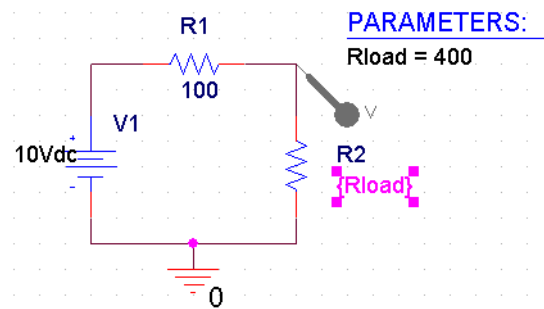

Figure 20. Potential divider with the value of R2 given by the parameter Rload. Don't forget the curly brackets!
- Change the value from 400 to {Rload}. This is the name of the parameter *in curly brackets*. Click OK. The schematic drawing should now resemble figure 20 on page 17.